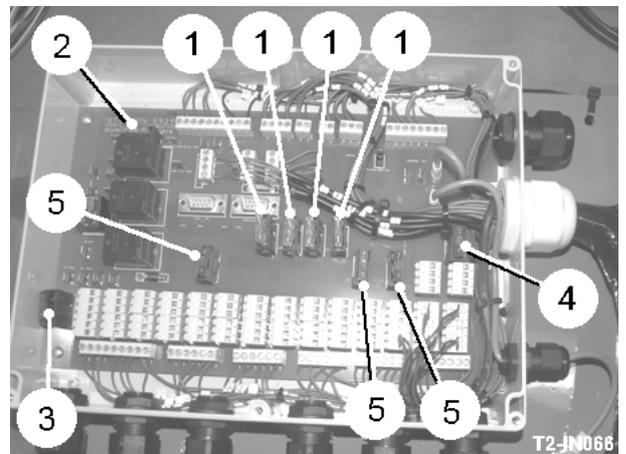

Fig 32
- 4x 25Amp fuses to protect the module power feeds (item 1, fig 32).
- 1x 25Amp fuse to protect the light and oil cooler feed (item 2, fig 32).
- 1x 2Amp fuse to protect the 5.0Volts joystick feed (item 3, fig 32).
- 1x 2Amp fuse to protect the 8.5Volts joystick feed (item 4, fig 32).
- 3x 2Amp fuses to protect the sensor power feeds (item 5, fig 32).